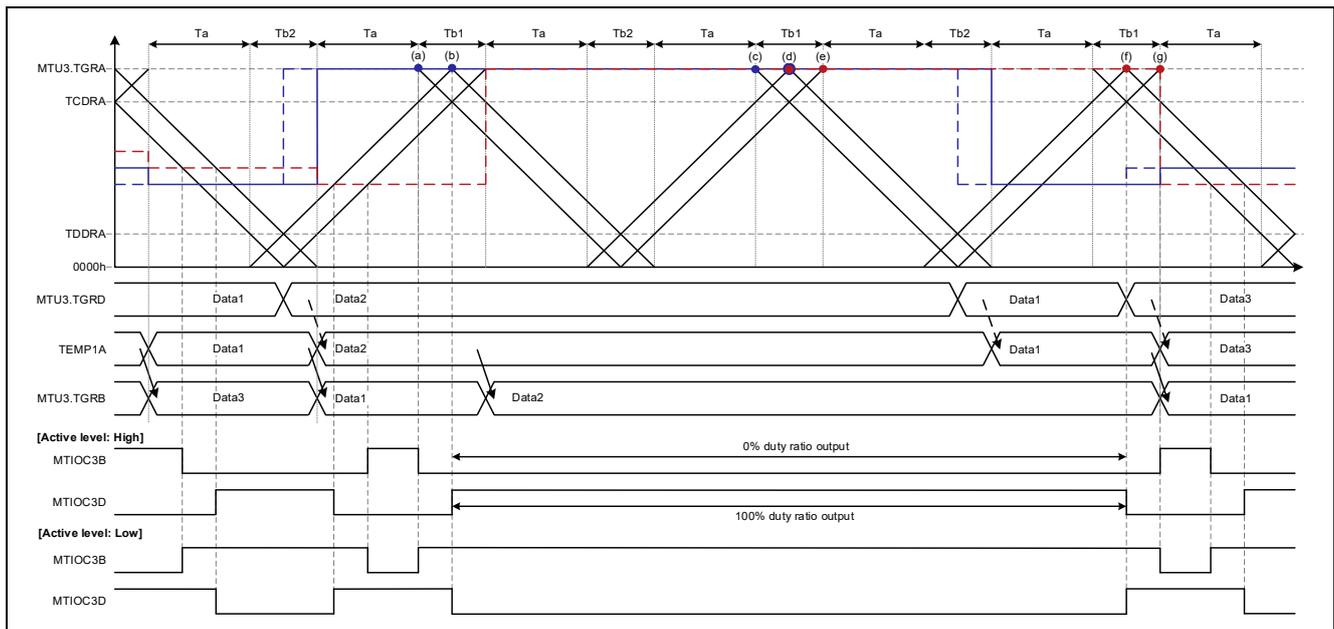

**Figure 1.8 Complementary PWM Mode 3 Operation Example
| Complementary PWM mode 3 | Trough | Figure 1.7 | Figure 1.8 | Figure 1.13 | Figure 1.14 |
- [Operation example 6] Figure 1.8, Complementary PWM Mode 3, Output Start: Trough, Ta Interval Overwrite
Figure 1.8 shows an operation example of buffer overwrite in the Ta interval in complementary PWM mode 3. Except for the difference in the buffer overwrite timing, the operation is the same as that shown in Figure 1.7.